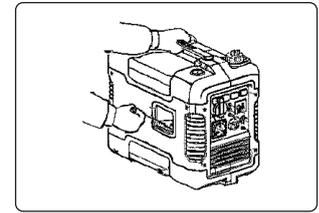

fig.10
- 6.3.6. Grasp the carrying handle firmly to prevent the generator from falling over. Pull slowly on the recoil starter until it is engaged, then pull it briskly fig.10.